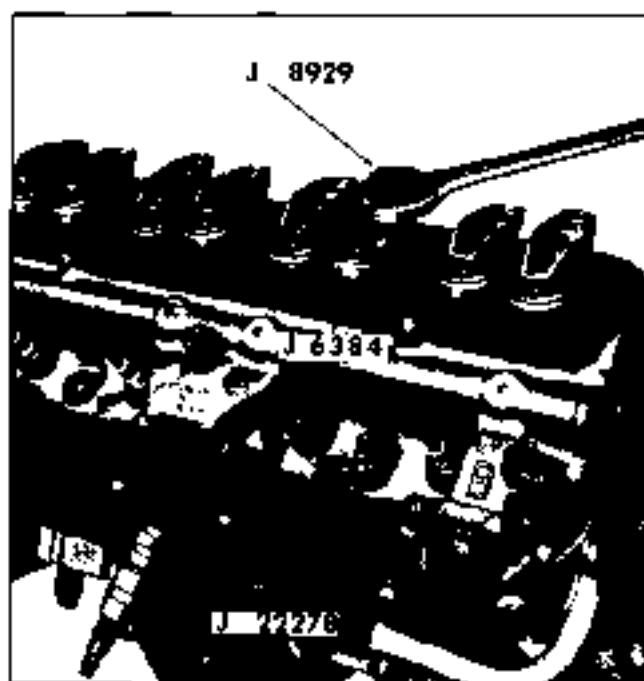

Fig. 6-79 Compressing Valve Spring
4. After removing rocker arm, thread valve spring compressor stud J 8929-1 on rocker arm stud and compress valve spring, using compressor J 6384-1 and nut J 8929-2 (Fig. 6-79). Remove valve spring retainer